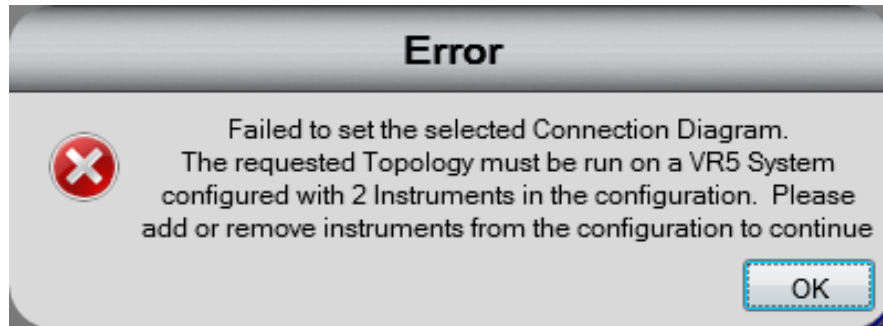

Figure 4-6: Configuration Error
9. If the error message in Figure 4-6 displays, refer to Section 3.3, Configuring VR5 HD Spatial Channel Emulator Control Software on page 9 to configure additional VR5 instruments.